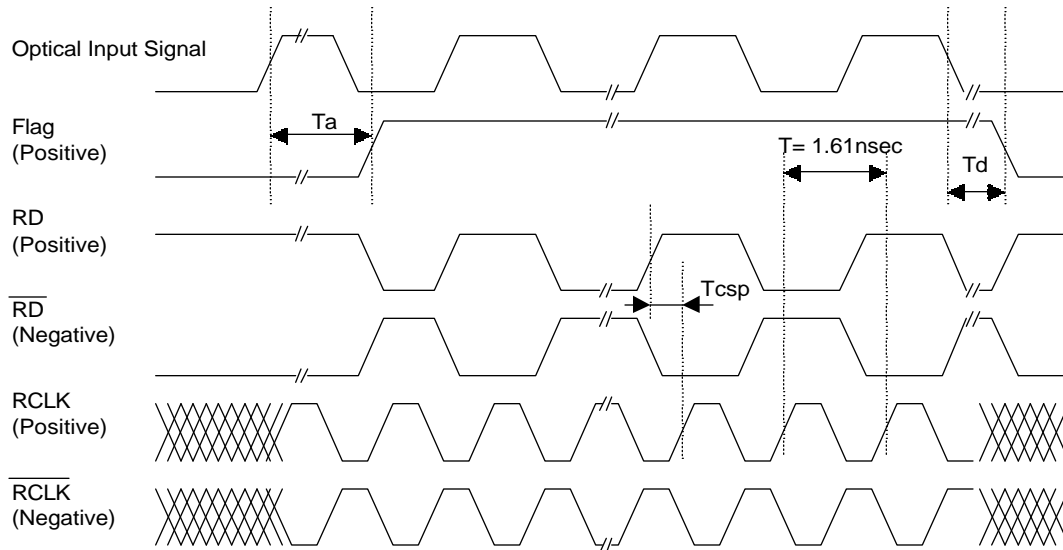

Figure 5. Timing Chart
5. 20~80%, Input capacitance and stray capacitance of measuring devices should be less than 2pF. 6. Refer to Figure 5.
7. Phase difference between rising edge of RD and Rising edge of RCLK. Refer to Figure 5.
4. Refer to Figure 5